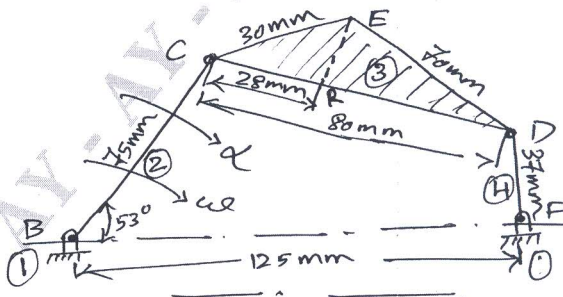

Fig.Q.3
- 3 A four bar mechanism as shown in the Fig.Q.3 below crank BC rotate with an angular velocity of 100 rad/sec and angular acceleration of 4400 rad/sec² of the instant when the crank makes an angle of 53° to the horizontal. Draw the velocity and acceleration polygon and determine the linear acceleration of point E and R, and the angular acceleration of link 3. (20 Marks)